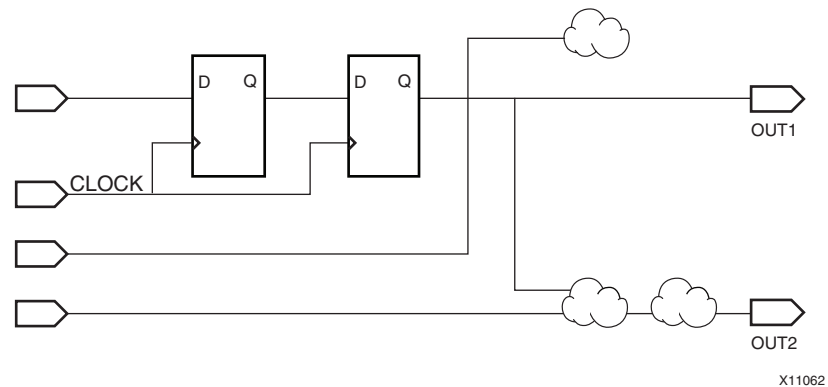

Figure 3-2: TNM on the CLOCK pad or net traces downstream to the Flip-Flops
An example is the clock net in following schematic is traced forward to the two flip-flops in Figure 3-2, “TNM on the CLOCK pad or net traces downstream to the Flip-Flops.”
- Figure 3-2, “TNM on the CLOCK pad or net traces downstream to the Flip-Flops”